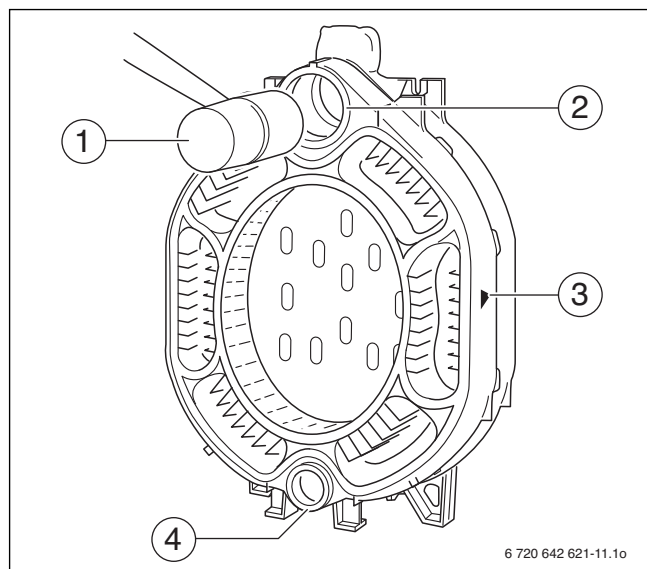

Fig. 18 Pound intermediate section in place
The directional arrow (→ Fig. 18, [3]) must point toward the rear.
- ▶ Position the intermediate section so that the upper and lower hubs (→ Fig. 18, [2 and 4]) fit onto the nipples in the rear section.
- ▶ Drive first intermediate section onto the rear section using a wooden or a rubber mallet (→ Fig. 18, [1]).